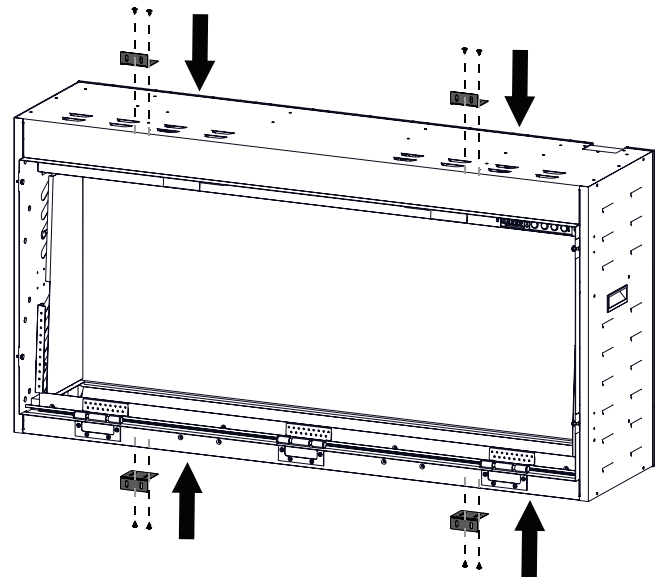

Fig. 1
3. Install the metal brackets in the locations shown using the screws supplied (**Fig. 1**).